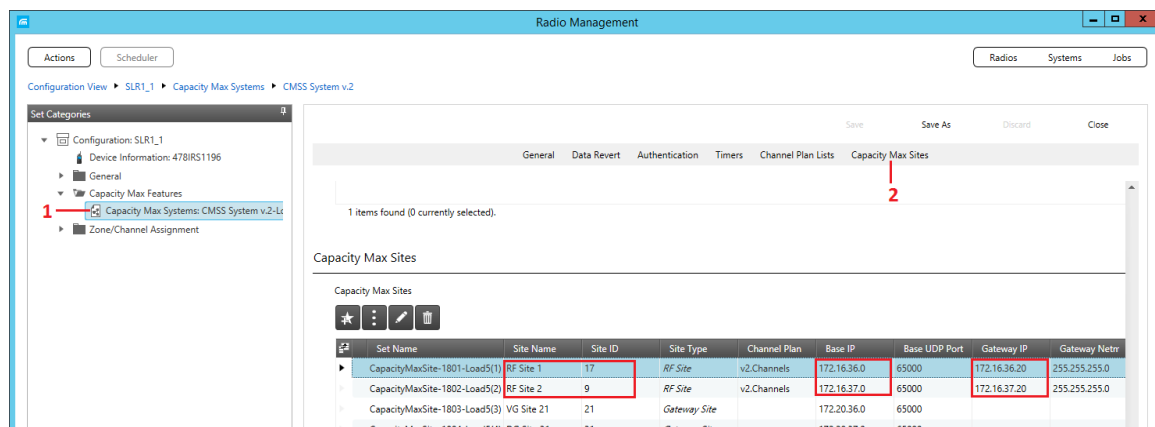

Figure 14: Opening the system sites
4. In the left pane, expand **Capacity Max Features** and click **Capacity Max Systems** (Figure 14, step 1).
5. In the right pane, click **Capacity Max Sites** (Figure 14, step 2).
Site ID	The site ID. This setting must match the Site ID value in the Radio Management tool (Figure 14).
Base IP	The base IP address of the RF site. This setting must match the Base IP value in the Radio Management tool (Figure 14).
Router IP	The IP address for the site router. This setting must match the Gateway IP value in the Radio Management tool (Figure 14).